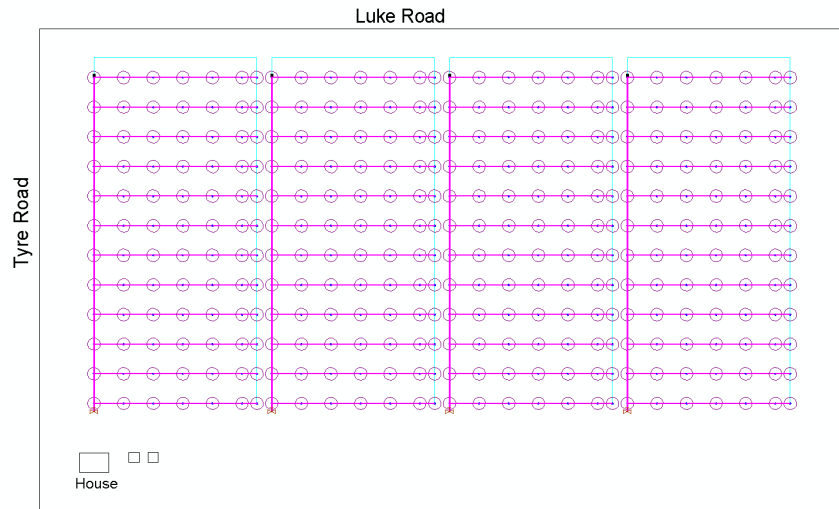

Figure 4-64
15. Repeat steps 10 to 14 for each of the small rectangles. The plan should look like Figure 4-64.